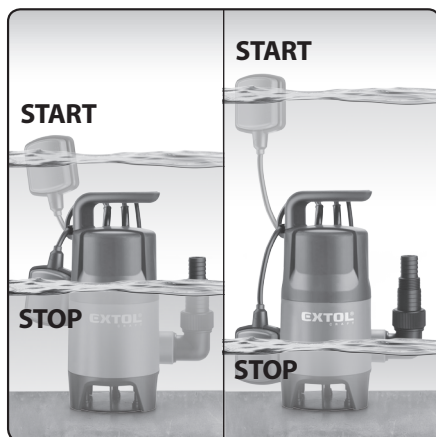

Fig. 2
➔ The adjustable length of the float cord makes it possible to set the water level at which the pump will start and stop, see Fig.2.
- For the float switch to function correctly, the distance between the float switch and the float switch fixture must not be too small. The described principle is shown in Fig. 2.
- The operation of the pump's electric motor is automatically controlled by the position of the float switch relative to the level of the liquid being pumped, see fig. 2.